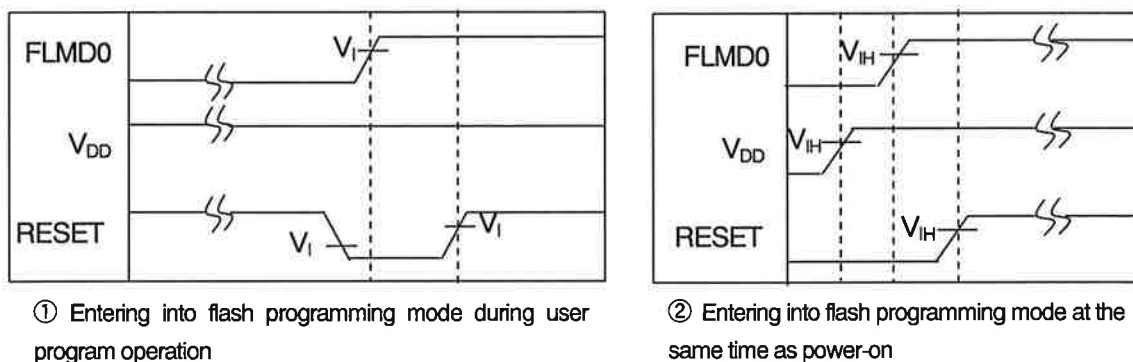

Figure 5-1 Methods of entering flash memory programming mode
- When the programming environment has been configured based on the Application Note (Programmer) (U17739EJ2V0AN00) and when leading the user program operation to the flash memory programming mode (Figure 5-1 (1))